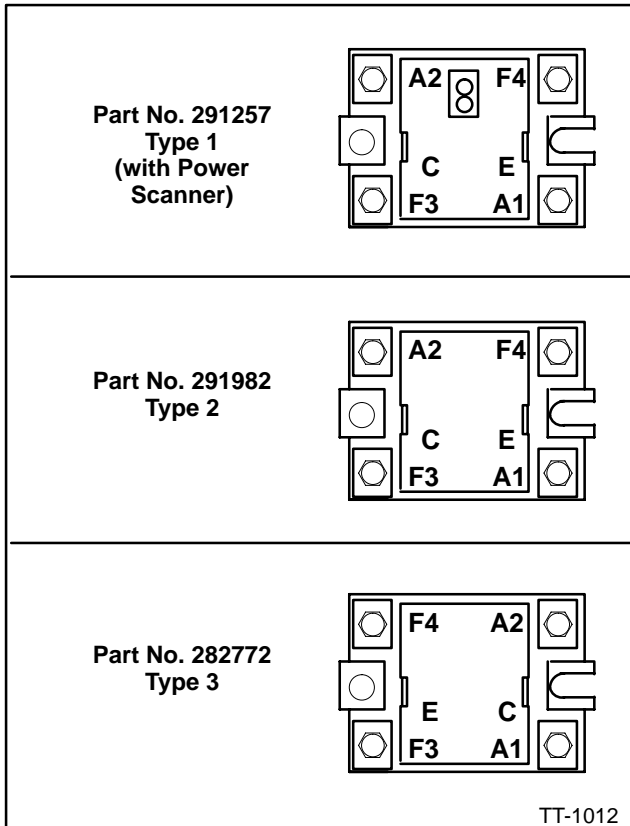

Figure 2. FR™ Activator Variations
Terminals E and C were reversed on earlier versions of the FR™ activator. See Figure 2.
Terminals F4 and A2 were reversed on earlier versions of the FR™ activator. See Figure 2. Connect leads to terminal with the same terminal designation regardless of the terminal position.
15. Before removing FR™ activator compare terminals with new SCR assembly. The leads may not reach SCR assembly terminals if mounted incorrectly. See Figure 2 for variations of the FR™ activator.